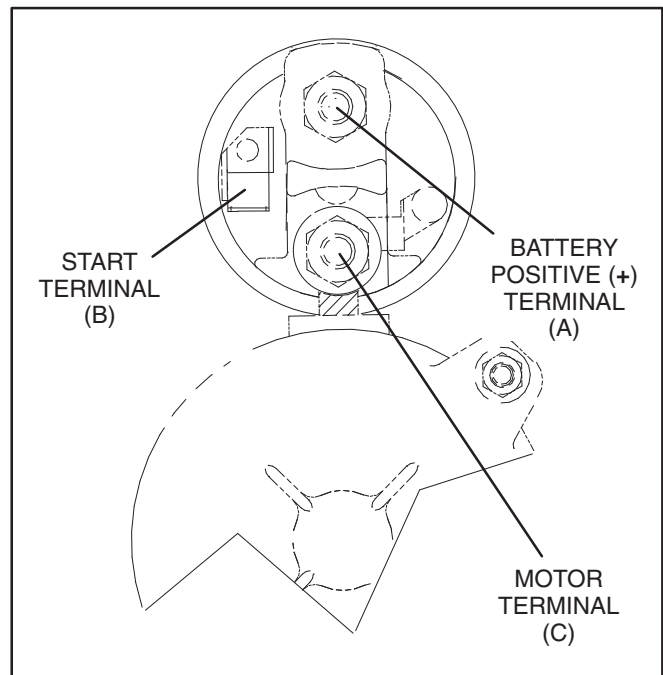

FIGURE 10-3. STARTER SOLENOID TERMINALS
Inspection: Refer to Figure 10-3. Before removing a starter because the engine does not crank:
2. Disconnect the spark plug cable so that the engine will not start. Then bypass the start circuit with a jumper between the Start and the Battery Positive (+) terminals on the solenoid (Figure 10-3). If the engine cranks, the solenoid and starter are probably okay. If the engine does not crank, go to Step 3.
3. Bypass the starter solenoid with a jumper between the Motor and the Battery Positive (+) terminals on the solenoid (Figure 10-3). If the motor responds, it is probably okay and it may only be necessary to replace the solenoid.